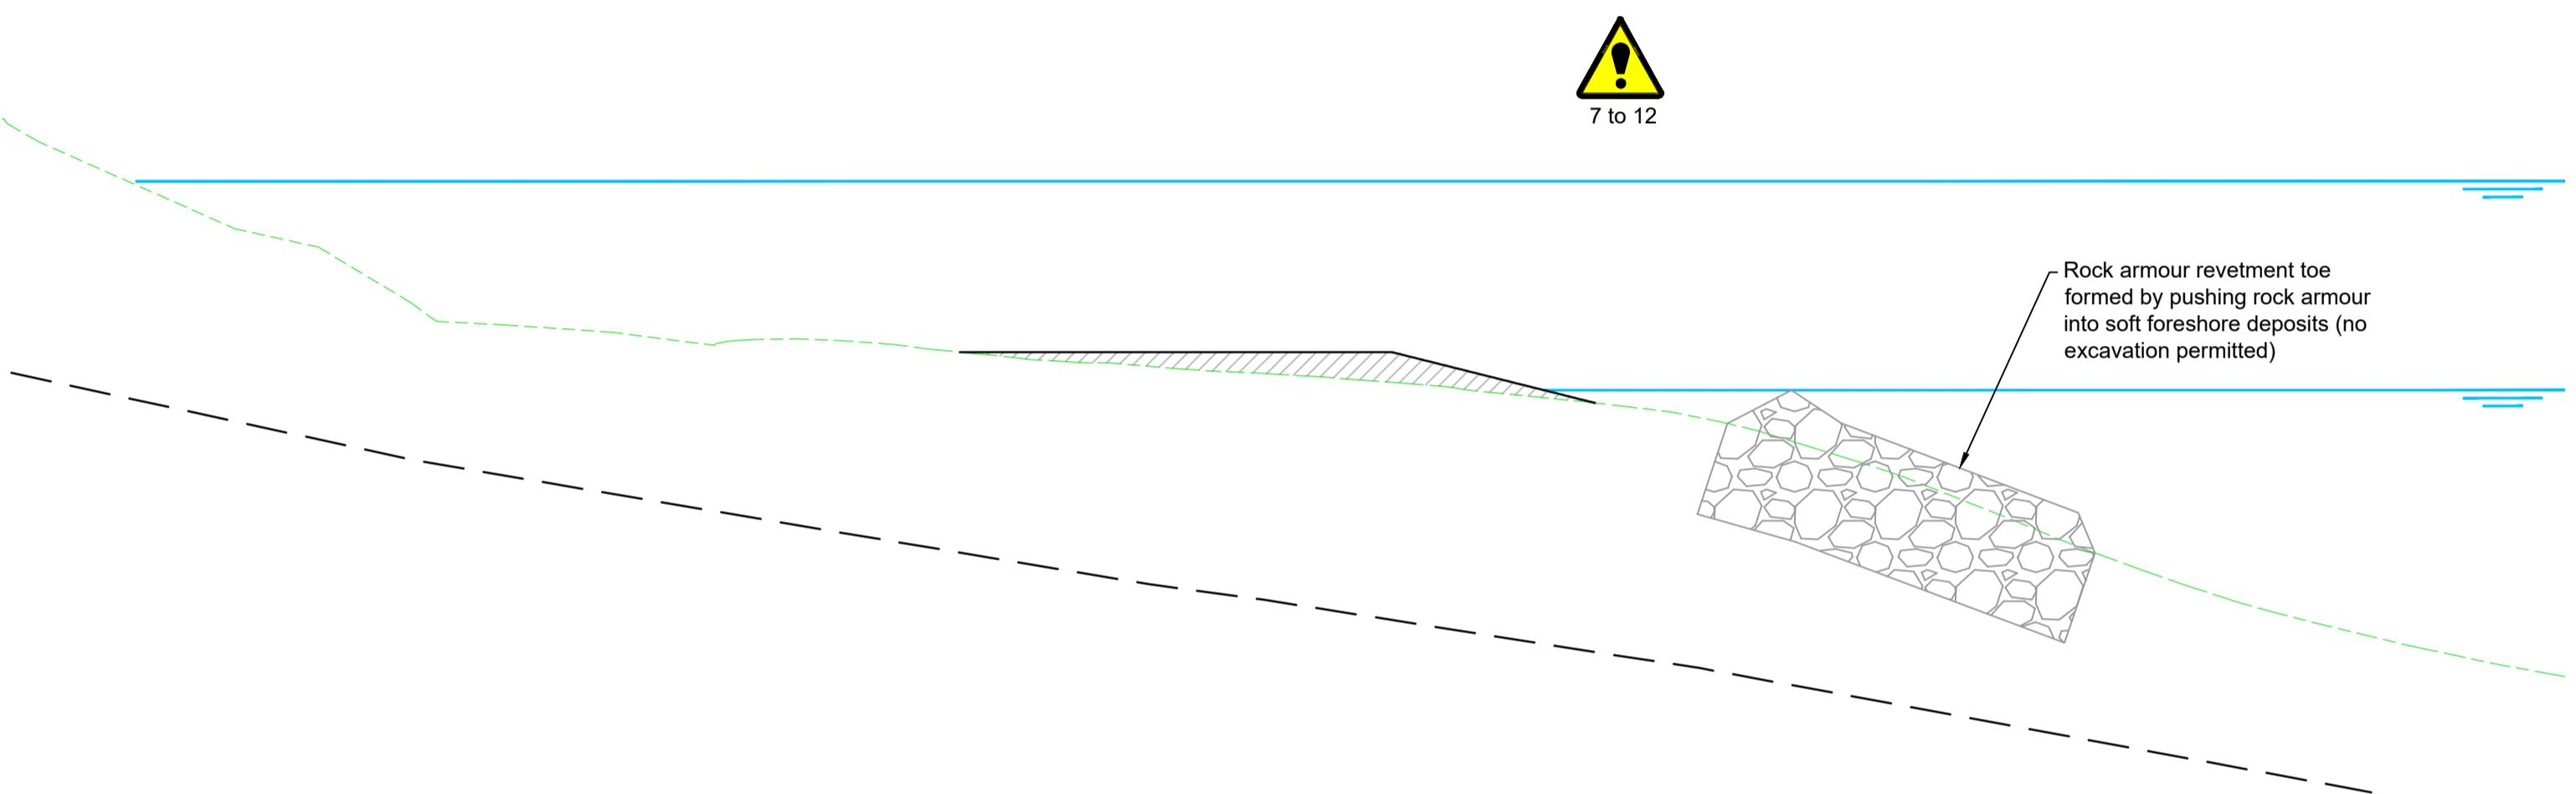

Figure 2
- Construct revetment toe, rock to be placed/pushed into soft foreshore deposits, no excavation permitted - refer Figure 2. Volume of rock placed to be monitored and level of toe surveyed.